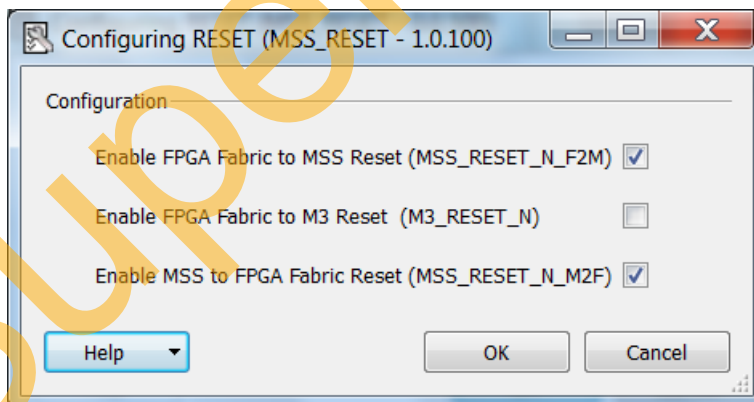

Figure 12. MSS RESET Configurator
- Double-click the **Reset Controller** and select the **Enable MSS to Fabric Reset** and **Enable Fabric to MSS Reset**, as shown in Figure 12. This enables the MSS to generate the Reset signal for all the Fabric blocks. The MSS reset itself will be coming through a system reset pin on the Fabric I/O. Click **OK**.